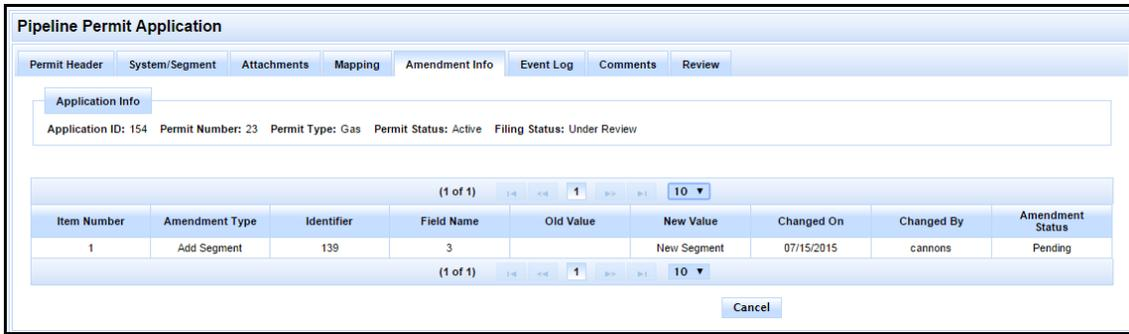

Figure 116: Gas Services Reviewer Amendment Info Tab
- Review the information on the Attachments tab. When you are finished, click the Amendments tab. An example Amendments tab is shown in Figure 116.